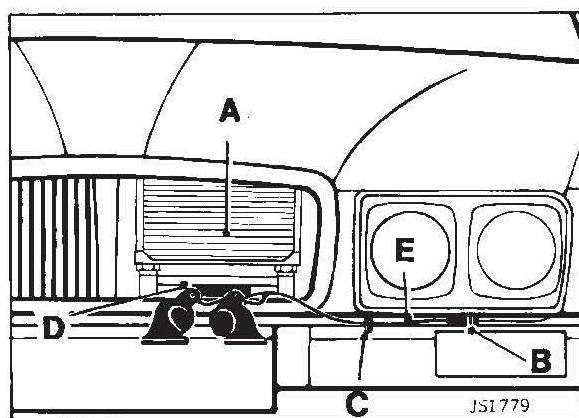

FIG 1
3. Remove the left-hand side radiator grille assembly (A Fig 1).
5. Remove the retaining strap securing the horn link harness PM4 (Blue) connector LS 62 (B Fig 1). Displace the harness from the body clip (C Fig 1), disconnect the PM4 connector, remove the link harness and discard.
7. Locate the existing fixing points in the lower body crossmember (D Fig 1). Offer the new horn/bracket assembly to the fixing points and secure using paint clearing bolts GL 108251J.
8. Route the link harness as shown (E Fig 1), locate into the body clip (C Fig 1), connect the PM4 connector LS 62 and re-strap using a suitable plastic type ratchet strap.